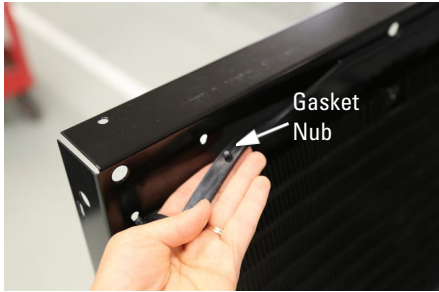

Figure 10: Position gasket on refrigeration module frame and ensure each gasket nub is inserted in corresponding hole
16. Ensure the black gasket is aligned and gasket nubs are inserted in corresponding holes on the frame of the refrigerator module (Figure 10).